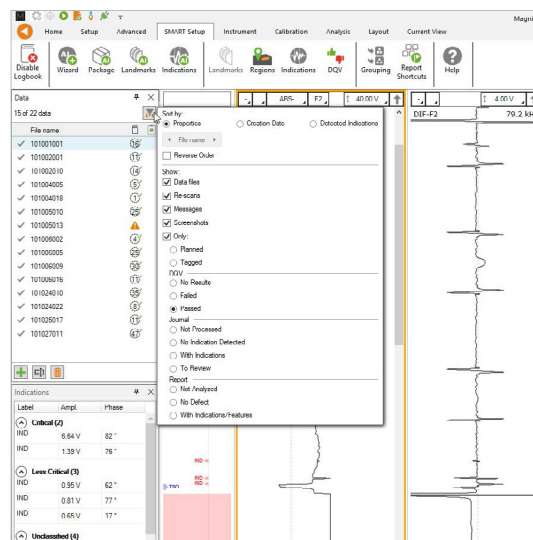

Figure 8: Filtering and sorting capabilities when AI-ECT detection is activated during analysis.
- **Tube list sorting:** Prioritizes tubes with the highest potential indications to the top as shown in Figure 8.
- **Filtering:** Displays or hides AI finding categories (no indication, with indications, data quality validation results, and others) as shown in Figure 8.